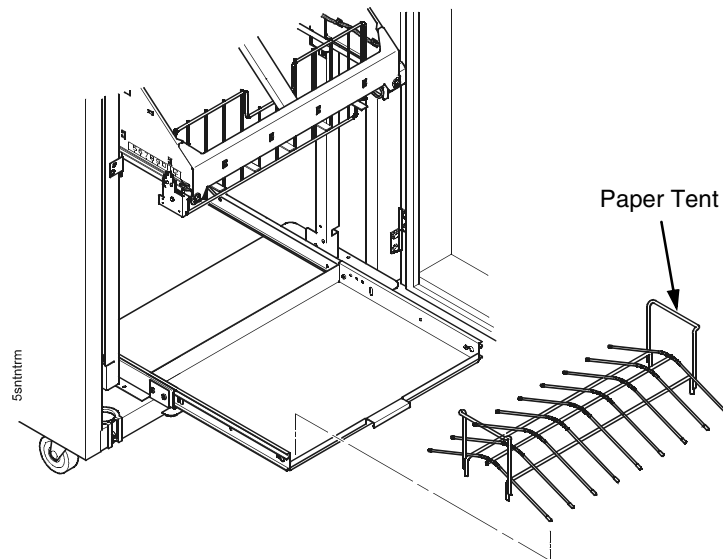

Figure 73. Removing the Paper Tent
4. Remove the paper tent (if present). (Figure 73.)